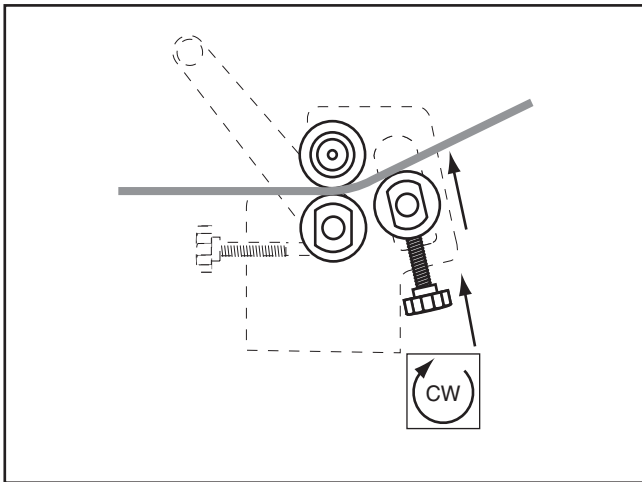

Figure 23. Setting the radius.
3. Turn the radius adjust knobs to lift the rear roller until the desired radius bend is reached (**Figure 23**). Make sure to turn the knobs equal amounts so the rear roller is always parallel with the other rollers. Failure to do so will create a larger radius on one end than the other, resulting in a cone shape.